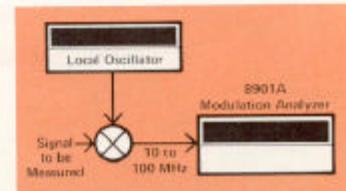

Figure 2. Extending the 8901A frequency range with an external local oscillator and mixer.
Above 2.2 GHz an external mixer and local oscillator (LO) can be used to heterodyne the input signal to the range of the 8901A (Figure 2). Generally, the local oscillator should be set 10 to 100 MHz above or below the frequency of the input signal because the 8901A has lowest residual FM and largest modulation range selection over this frequency range.